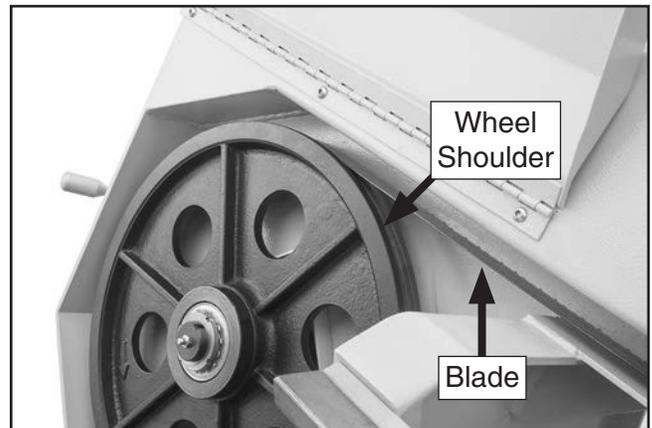

Figure 33. Blade installed on wheels.
- Apply a light amount of tension to hold blade in place. Work your way around blade to adjust position so back of blade is against shoulder of wheels, as shown in **Figure 33**.